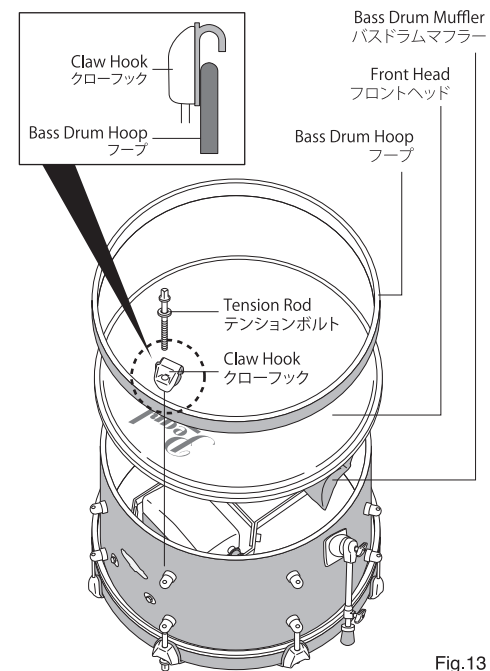

Fig.13
5. Install the front Bass Drum head by placing it onto the shell with the Pearl logo at the top of the drum as shown (Fig.13). Care should be taken to ensure the logo is level. Place the Bass Drum Hoop with the flat-side down against the head. Hook the Tension Rod and Claw on the hoop and insert the Tension Rod into the lug and tension finger tight. Repeat the process to finish the installation (Fig.13).
3.と同様に、ヘッド、フープを順番に重ね、さらにクローフックをフープにひっかけた後、手でテンションボルトを8か所、仮組みします。ヘッドのPearlロゴの位置を調整したら、ドラムキーを使って、ヘッドがお好みのテンション (張り具合) になるまで、テンションボルトを締めてください (Fig.13)。